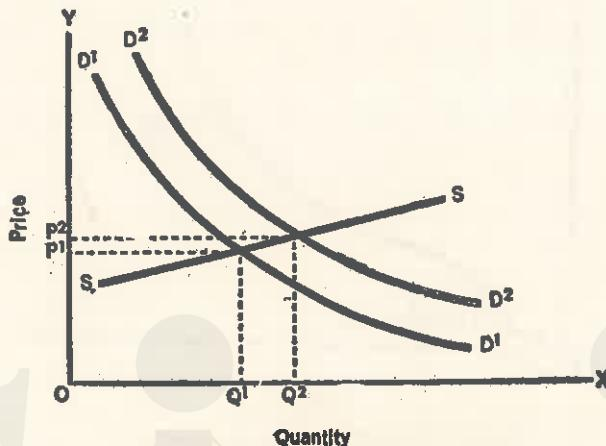

Fig. 35.8. Elasticity of Supply and Change of demand.
- On the other hand, if supply is fairly elastic, an increase of demand will result in a big increase in quantity and only a small increase in price (Fig 35.8).